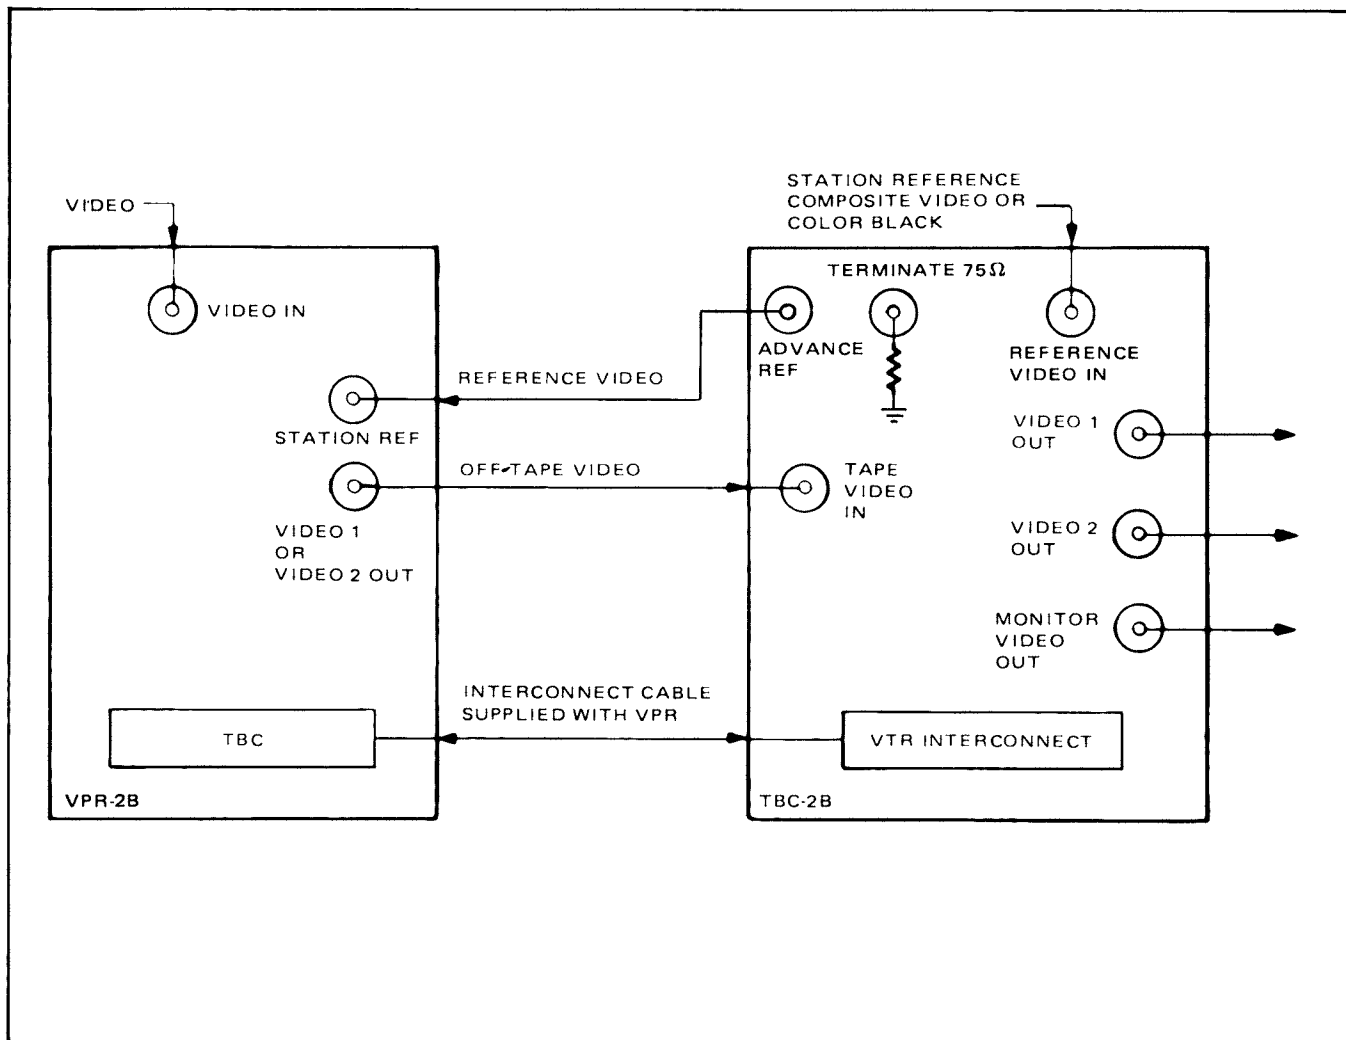

Figure 2-3. TBC-2B/VPR-2B Installation
2. Interconnect the TBC-2B with the VPR-2B in accordance with Figure 2-3.